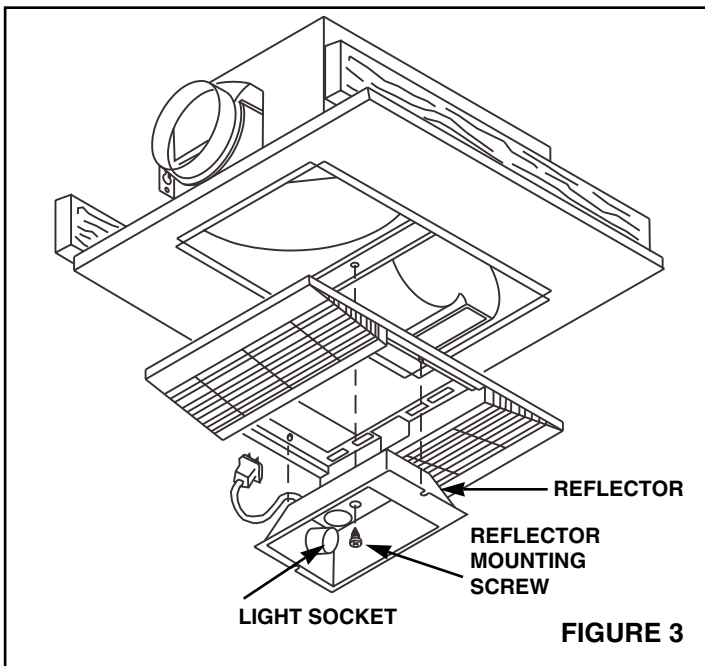

FIGURE 3
1. **Refer to Figure 3.** Place the reflector in the opening in the center of the grille. The notches in the reflector should fit over the pegs on either side of the opening. Insert plug from lamp socket into lamp receptacle on wiring compartment.